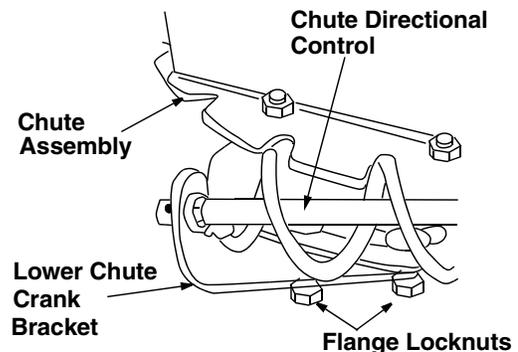

Figure 3
- With the flange locknuts loosened on the lower chute crank bracket (see Figure 3) adjust the bracket so that the spiral on the chute crank fully engages the teeth on the chute assembly. Tighten the nuts on the lower chute crank bracket securely.